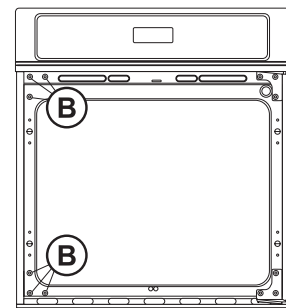

Figure 10
- 6.2.5. Replace the six (6) screws and washers removed on step 1 on the left side of the oven frame (See B, Figure 10).